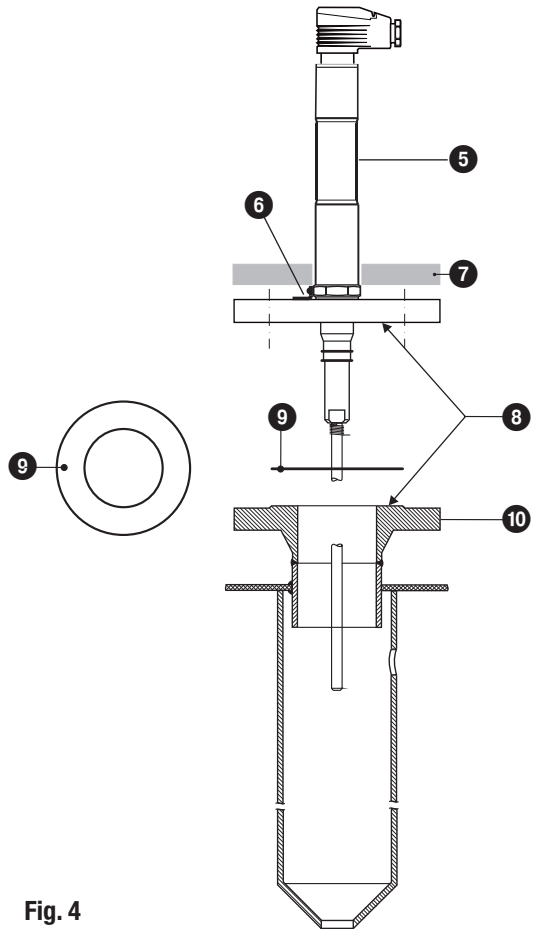

Fig. 4
6. Check seating surfaces. **Fig. 4**
7. Put flange joint ⑨ onto connecting pipe socket ⑩. **Fig. 4**